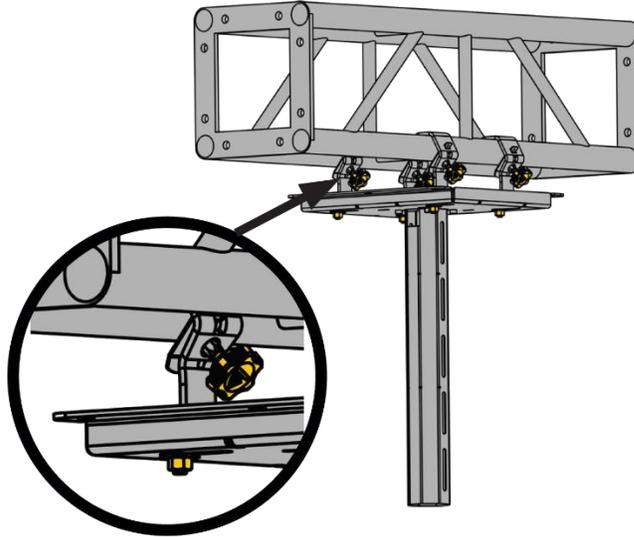

Figure 77:
3. Align the ceiling plate ① in the desired position on the truss and then tighten the nuts and screws of the truss clamps ⑭, as shown in **Figure 77**.